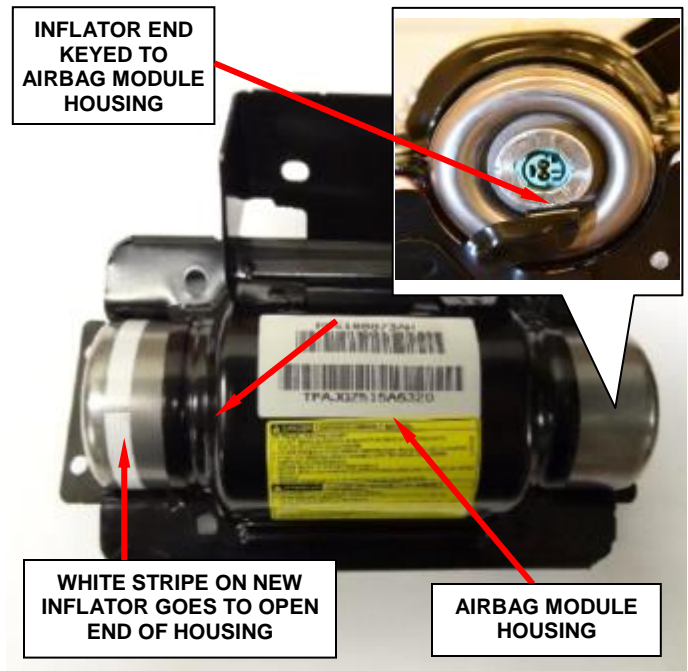

Figure 65 – Install New Inflator to Housing
- e. Slide the **NEW** inflator into the passenger airbag module housing. The keyed end is inserted first; therefore the white stripe on the **NEW** inflator will be located at the open end (Figure 65).